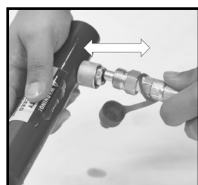

Fig.8
- a. Release pressure and disconnect the hydraulic ram from the pump assembly (Fig 8).